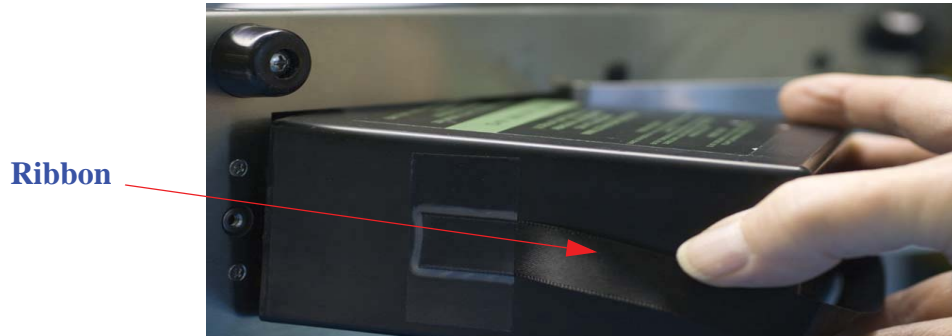

Figure 3-3 Inserting battery
2. Insert the battery onto the compartment floor with battery ribbon facing out as shown in Figure 3-3.